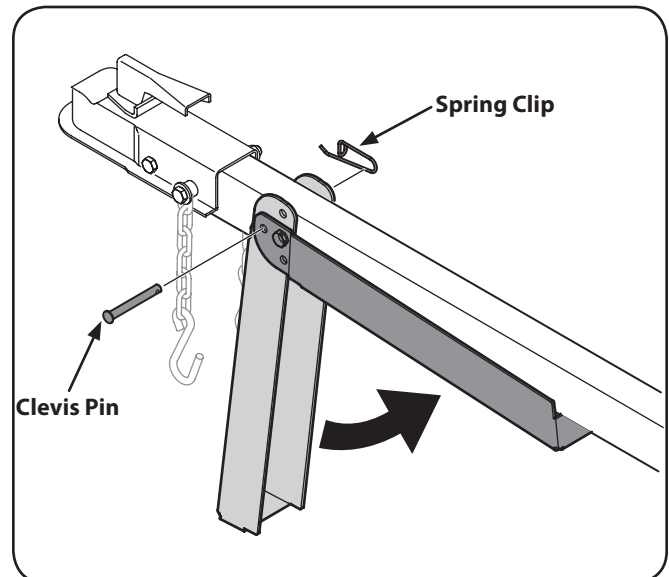

Figure 5-4
3. Support the tongue and pivot the jack stand up against the tongue. See Fig. 5-4.
4. Secure the tongue with the spring clip and clevis pin previously removed. See Fig. 5-4.